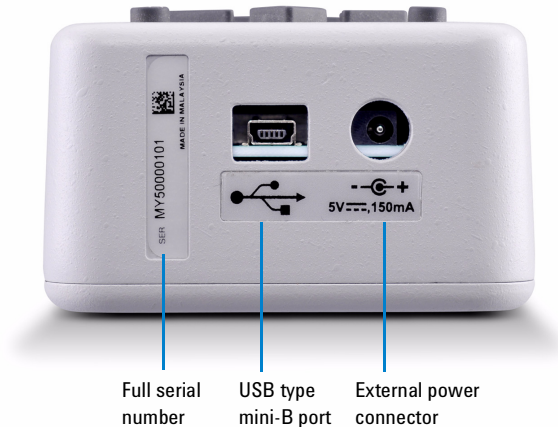

Figure 1-3 Full serial number, USB type mini-B port, and external power connector
- Figure 1-3 Full serial number, USB type mini-B port, and external power connector 7
The V3500A has a USB 2.0 interface with mini-B port (see Figure 1-3). The V3500A can be remotely programmed over this USB interface.
The external power connector provides a connection for the optional external power supply (Model V3500A-PWR) (see Figure 1-3). If the external power supply is connected, the V3500A will be powered by the external power supply – regardless of whether the USB power or batteries are present.
^[1] The numerical serial number displayed on the instrument is for reference only. For full serial number (with prefix), please refer to the printed label shown in Figure 1-3 on page 7.